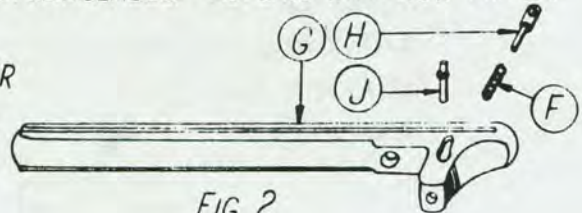

FIG 2
- (29) INSERT SPRING (F) IN OPERATING HANDLE (G), FIG. 2. WITH COUNTERSUNK SIDE OF HOLE UPWARD, INSERT PLUNGER (H), DEPRESSING SPRING (F) UNTIL PIN (J) CAN BE INSERTED